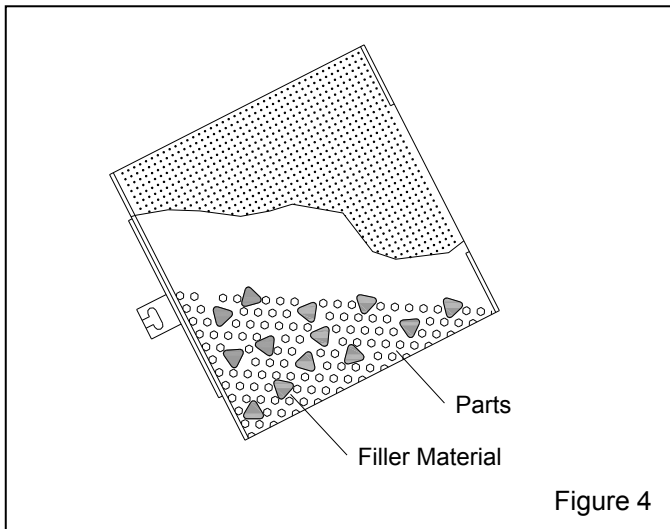

Figure 4
**3.3.3** Do not underload with parts; underloading will result in rapid wear to the tumble basket. When blasting small loads, to prevent the blast stream from blasting the basket, add filler material (dunnage), as shown in Figure 4, such as an abrasive-resistant tumble media that is compatible with the parts being blasted.